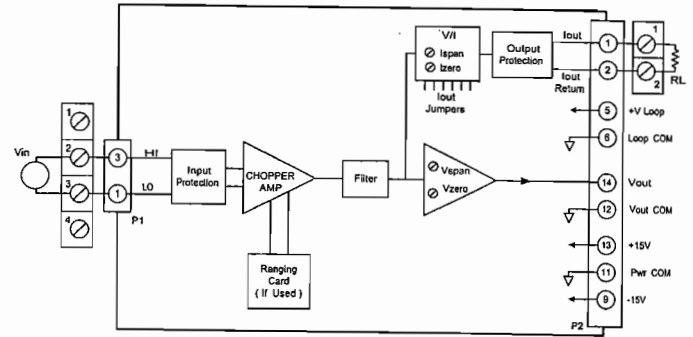

Figure 2.1.1.1. 3B10 and 3B11 Functional Block Diagram
1. Connect model 3B10 (3B11) as shown in Figure 2.1.1.1 with  $R_L = 250\Omega$ .